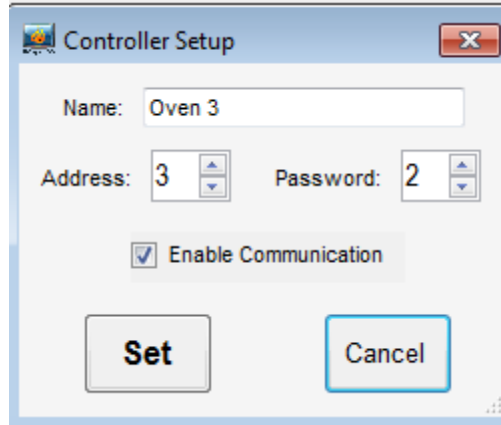

Figure 12: Controller Setup Window
2. Use this screen to add as many controllers as are connected to the host PC. Click on the first blank line to select it, then click the Insert button and press it to add a new controller to the software. The **Controller Setup** window will pop up. See Figure 12.
Enable Communication Checkbox: Use the cursor to check this box to add it to the list of controllers working under the software. If the status for the controller shows **DISABLED** in the **Status** column of the **Network** tab of the **Software Setup** window (see Figure 12), this box must be rechecked.